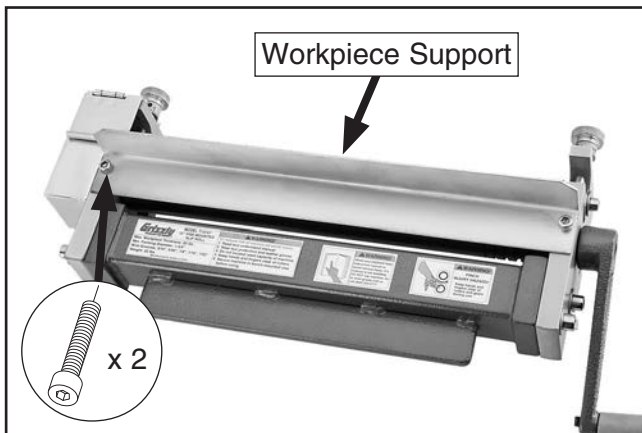

Figure 4. Workpiece support attached.
2. Attach the workpiece support to the front of the slip roll with the two pre-installed M6-1 x 12 cap screws, as shown in **Figure 4**.